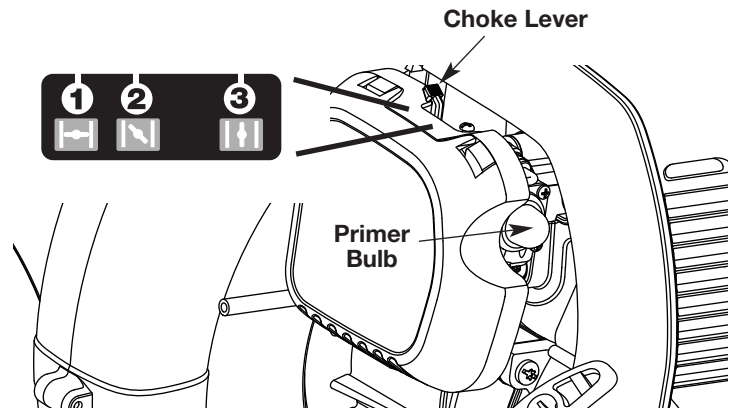
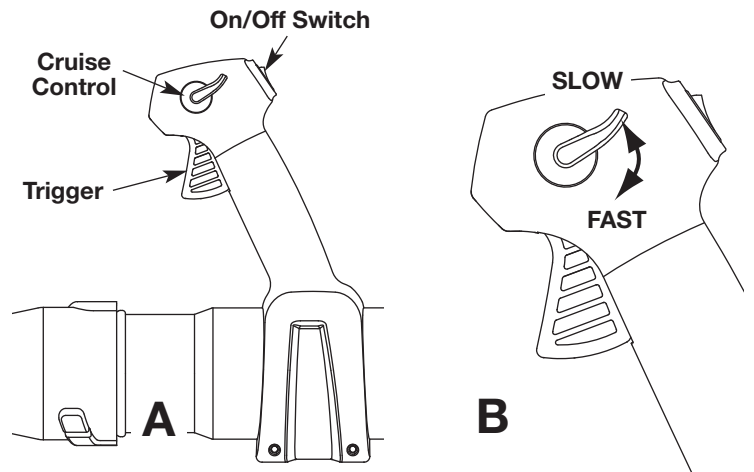
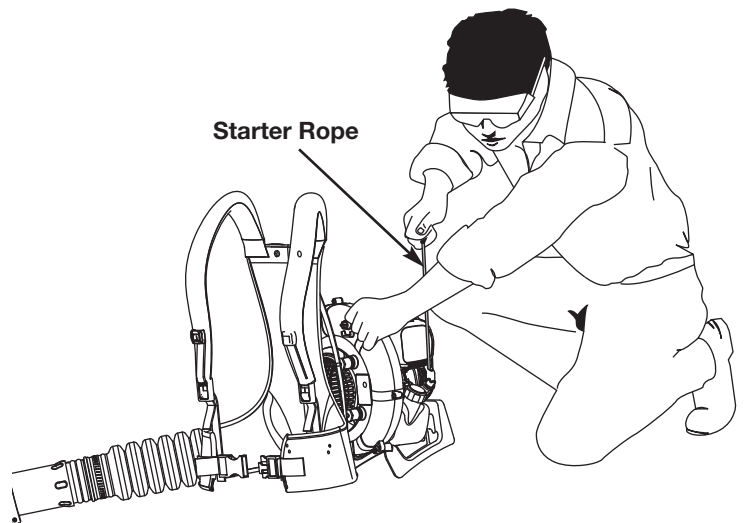

Fig. 14
Fig. 15
Fig. 16
**WARNING:** Avoid accidental starting. Make sure you are in the starting position when pulling the starter rope (Fig. 16). To avoid serious injury, the operator and unit must be in a stable position while starting. To avoid serious personal injury, make sure that the blower tube is locked in place or firmly installed.
**NOTE:** There is no need to turn the unit on. The On/Off Control is in the ON (I) position at all times.
3. Fully press and release the primer bulb **10** times, slowly. Some amount of fuel should be visible in the primer bulb (Fig. 14). If fuel cannot be seen in the bulb, press and release the bulb until fuel is visible.
4. Move the choke lever to **Position 1** (Fig. 14).
**NOTE:** The unit should be started in idle. Do not squeeze the trigger until step 8 (Fig. 15, A).
5. **Do not squeeze the trigger.** Crouch in the starting position (Fig. 16). Pull the starter rope **5** times in a controlled motion.
6. Move the choke lever to **Position 2** (Fig. 14).
8. Squeeze and hold the trigger, or press down the cruise control (Fig. 15, A), and allow the engine to warm up for 30 to 60 seconds.
9. **Continue to squeeze the trigger.** Move the choke lever to **Position 3** (Fig. 14) and continue warming the engine for an additional 60 seconds. During this time the unit may be used.
2. Press and hold the On/Off switch in the OFF (O) position until the unit comes to a complete stop (Fig. 15, A).
1. Once the engine has started and warmed up, squeeze the trigger to accelerate the unit as needed (Fig. 15, A).
2. For longer periods of operation and to eliminate possible finger fatigue, move the cruise control toward the FAST position to incrementally increase or maintain the unit's engine speed (Fig. 15, B). When the cruise control is pressed, the trigger will recede into the handle.
3. To decrease engine speed, move the cruise control to the SLOW position and the trigger will return to idle position (Fig. 15, B).
**NOTE:** The unit should be started in idle. Do not squeeze the trigger until step 10 (Fig. 15, A).
5. Crouch in the starting position (Fig. 16). Insert the electric starter or Power Start Bit™ into the back of the unit (Fig. 32). Refer to the Operation section of the Electric Starter or Power Start Bit™ operator's manual.
6. **Do not squeeze the trigger.** Press and hold the electric starter or drill's ON (I) button for 2 seconds.
7. Move the choke lever to **Position 2** (Fig. 14).
8. **Do not squeeze the trigger.** Press and hold the electric starter or drill's ON (I) button for 2-second intervals until the unit starts.
10. Squeeze and hold the trigger, or press down the cruise control (Fig. 15, A), and allow the engine to warm up for 30 to 60 seconds.
11. **Continue to squeeze the trigger.** Move the choke lever to **Position 3** (Fig. 14) and continue warming the engine for an additional 60 seconds. During this time the unit may be used.
**IF...** the engine fails to start after a few attempts, place the choke lever in **Position 3** and squeeze the throttle control. Press and hold the electric starter or drill ON (I) button for 2-second intervals until the unit starts.
- Use the cruise control (Fig. 15) to keep the trigger depressed while operating to make continuous operation easier.